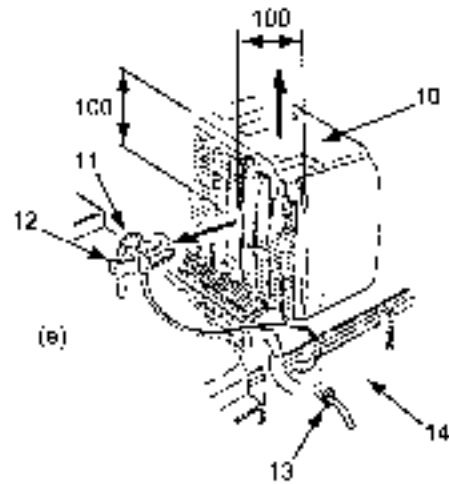

Figure-6
- (1) When installing the thermostat, only the sensor part (e) should protrude from the bottom.
- (2) Refer to the Figure-6 for an installation location.
- (1) Remove the upper case (8) as shown in Section 14.3.2.1.
- (2) Lift up the evaporator Assy (10) to remove. [See Figure-6]
- (3) Remove the insulation (15) and take out the stay (16).
- (4) Loosen the nuts (f), (g), and take off each pipe.